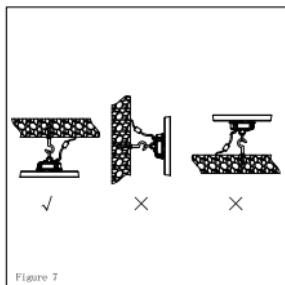

Figure 7
7. Pay attention do not install at wrong direction. (see fig.7)